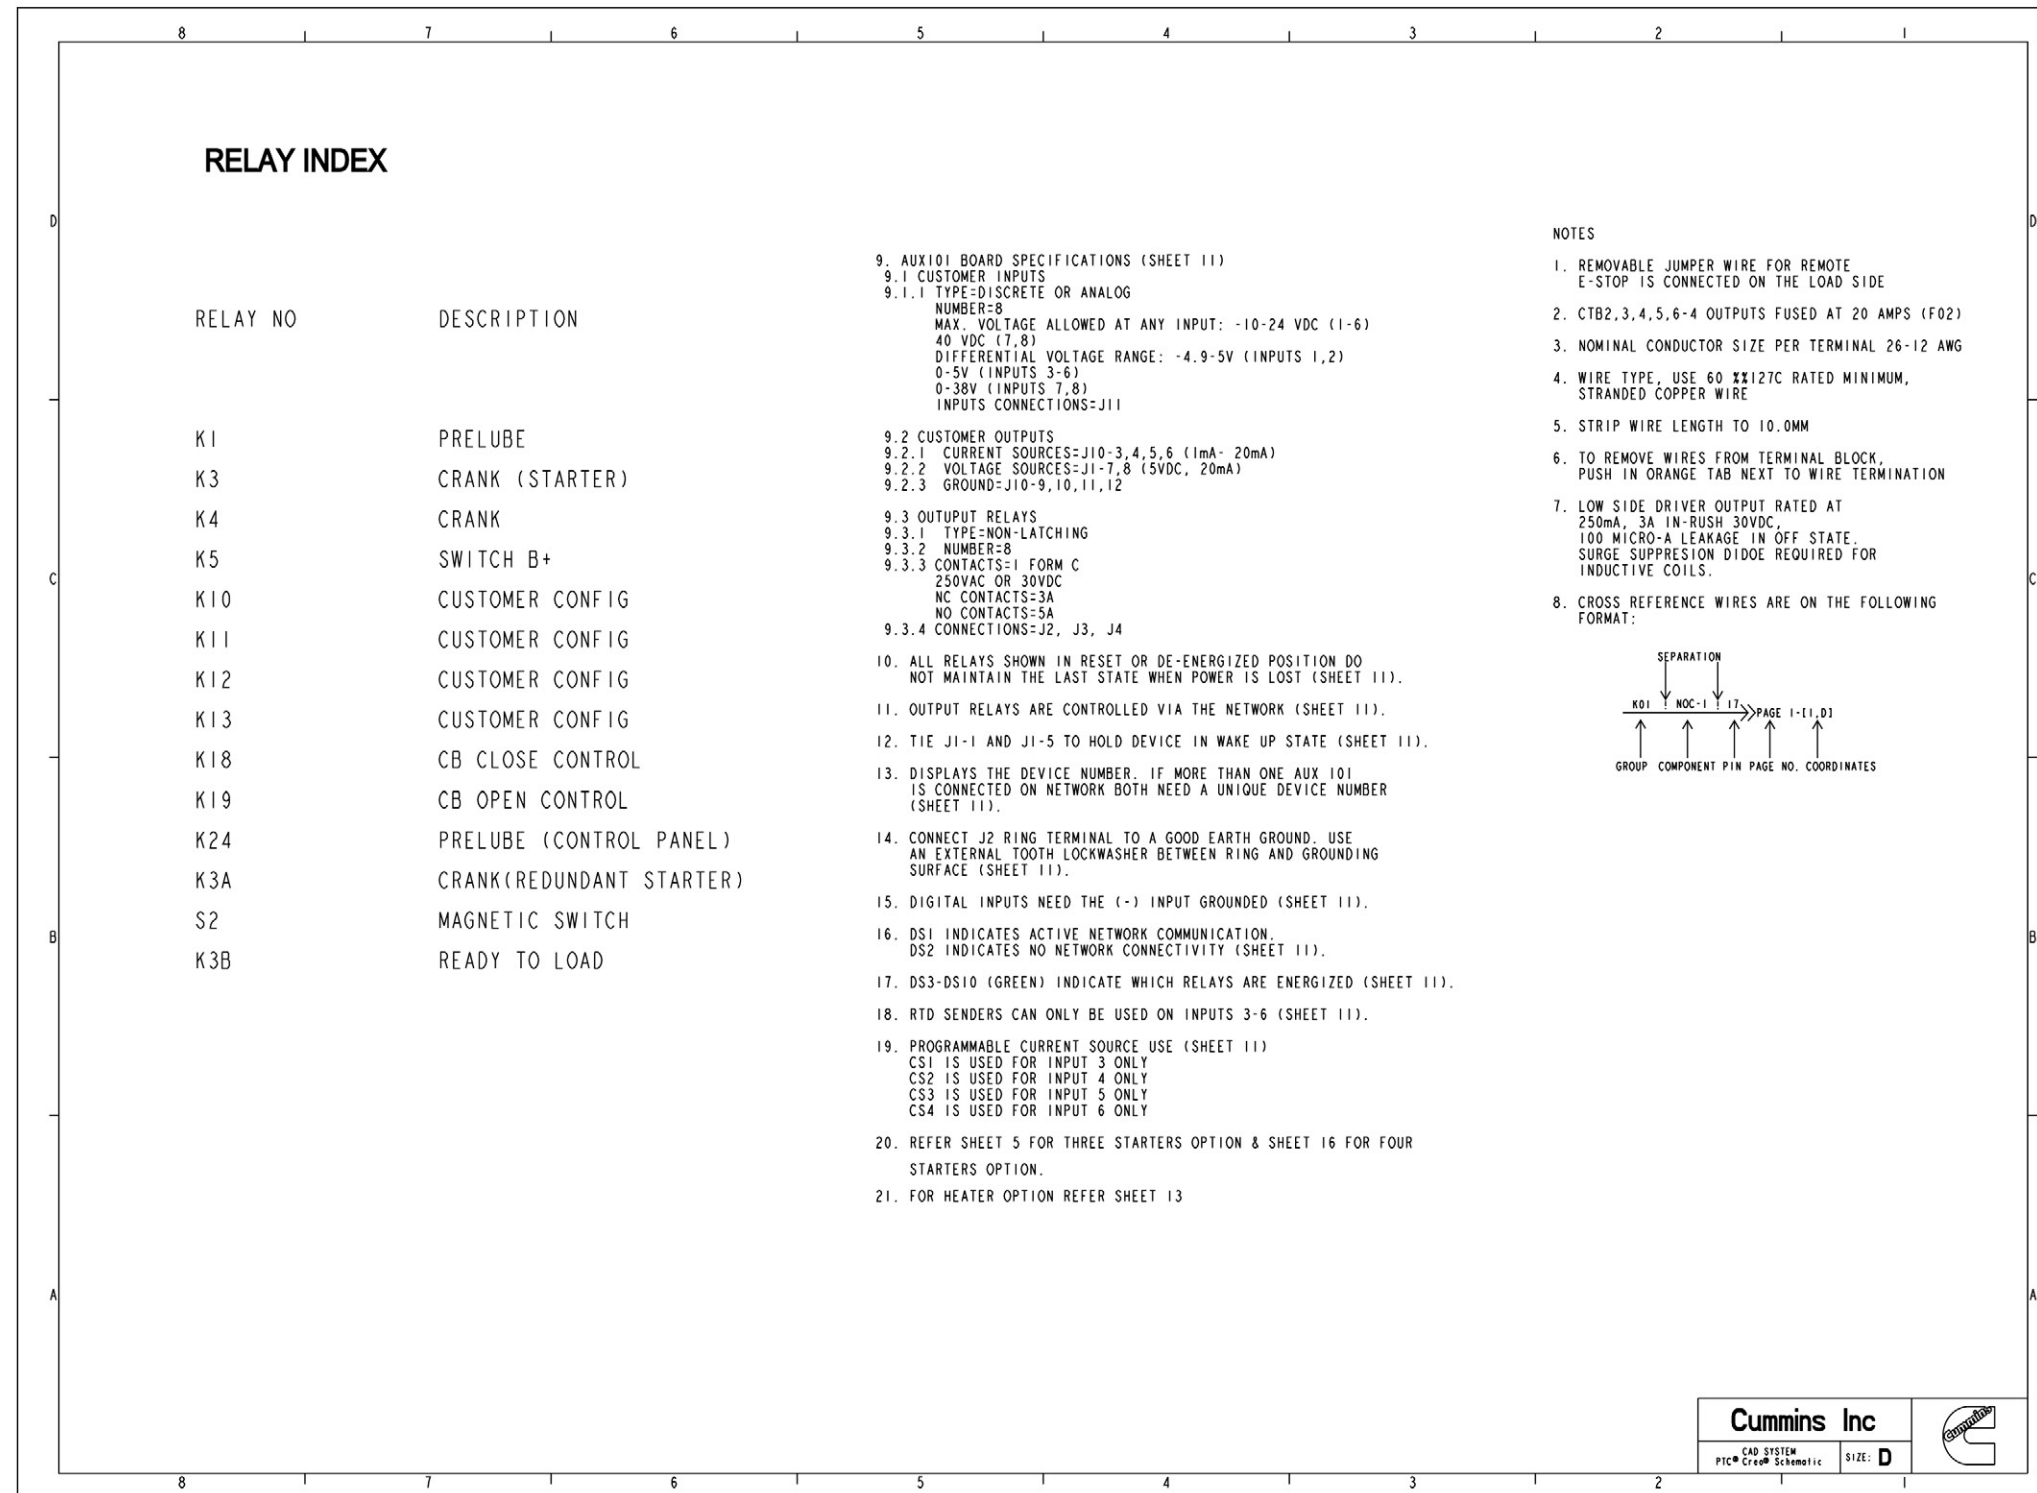

FIGURE 56. WIRING SCHEMATIC (SHEET 1)
- Figure 56. Wiring Schematic (Sheet 1) 111